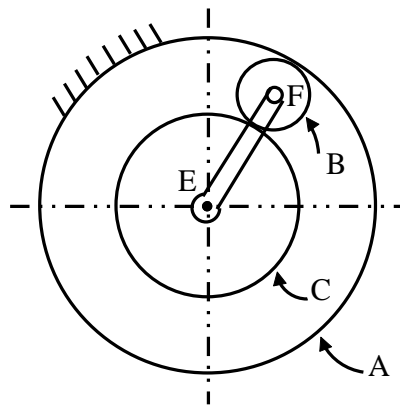

Fig. 10. b
- b) An epicyclic gear consists of three gears A,B and C as shown in fig. 10 b. The gear A has 72 internal teeth and gear c has 32 external teeth. The gear B meshes with both A and C and is carried on an arm EF which rotates about the center of A at 18 r.p.m. If the gear A is fixed, determine the speed of gear B and C. **12**